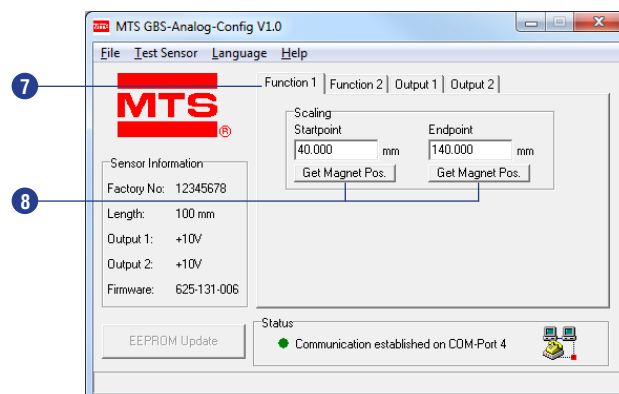

Fig. 35: Dialog field with tabs
- 7 Determine the measuring range with **Start-** and **Endpoint** via tab **Function 1** (Fig. 35).
- 8 The current magnet position can be stored via buttons **Get Magnet Pos.**. The measuring direction changes, when the value of the **startpoint** is higher than the value of the **endpoint**. Independent of the measuring direction, the minimum measuring distance is 25 mm (Fig. 35).